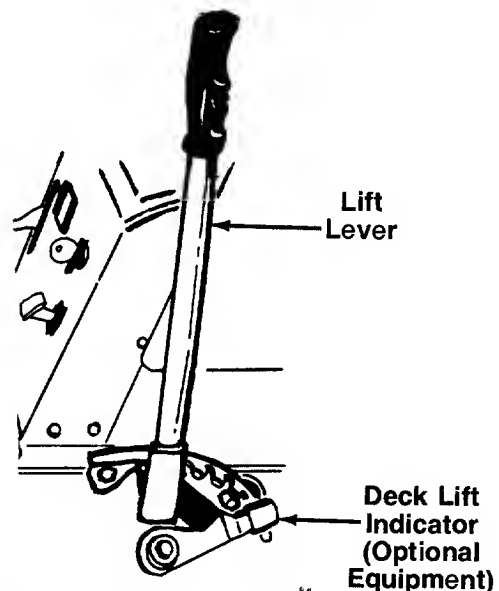

FIGURE 10. Low 1 3/8" TO High 3 3/4"
NOTE: The lift lever **must** be in the disengaged position when starting the engine, when shifting into reverse and if the operator leaves the seat. See figure 10.
If so equipped, the deck lift indicator marks the position being used for the lift lever. Select the lift lever position desired, press the indicator lever outward, move it to the position immediately below the lift lever and release the indicator lever. See figure 10.
2. Place the lift lever in the DISENGAGED position. See figure 10.